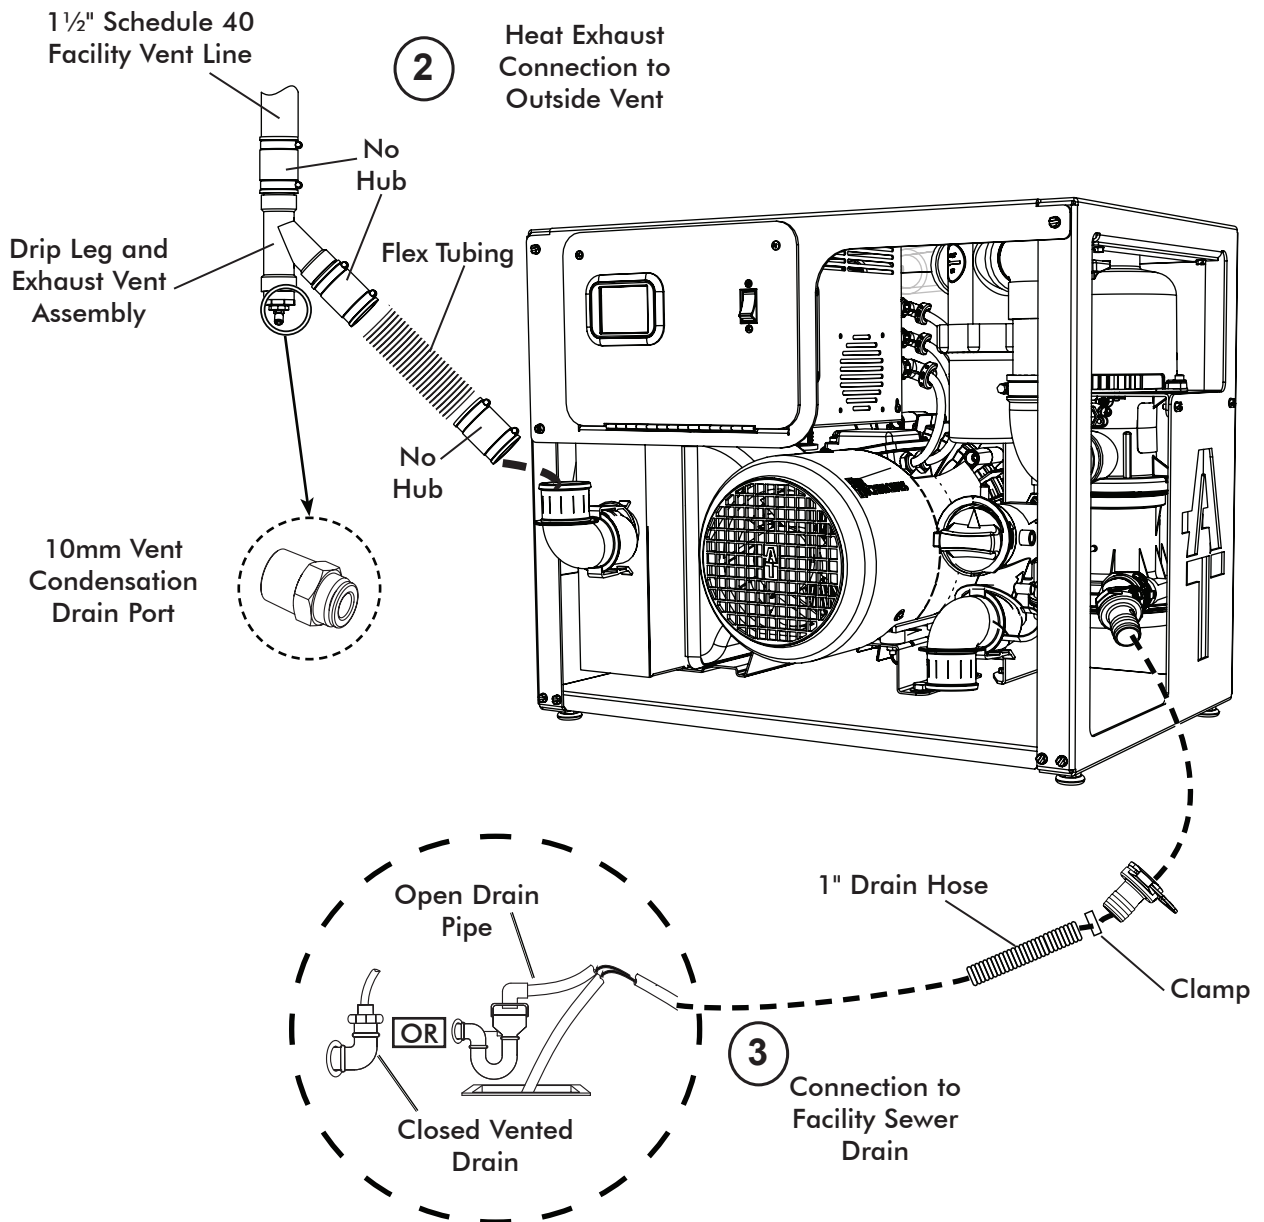

Figure 8. MOJAVE LT Detail Plumbing Connection
3. **Drain to Facility Sewer Connection.** Refer to Figure 8, item (3) for the location of the Air/Water Separator drain. Use the 1-inch hose provided to connect the separator drain to the facility sewer. As shown by Figure 8, the sewer connection can be made as either a closed vented drain or open drain pipe method.